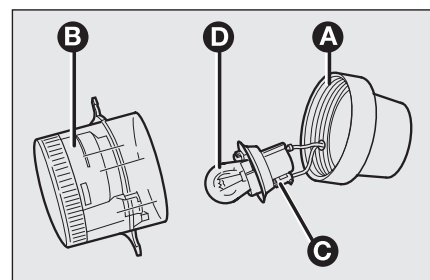

fig. 20
- ☐ remove the cap **A**-fig. 20 from the lens **B** and remove the bulb holder **C**;